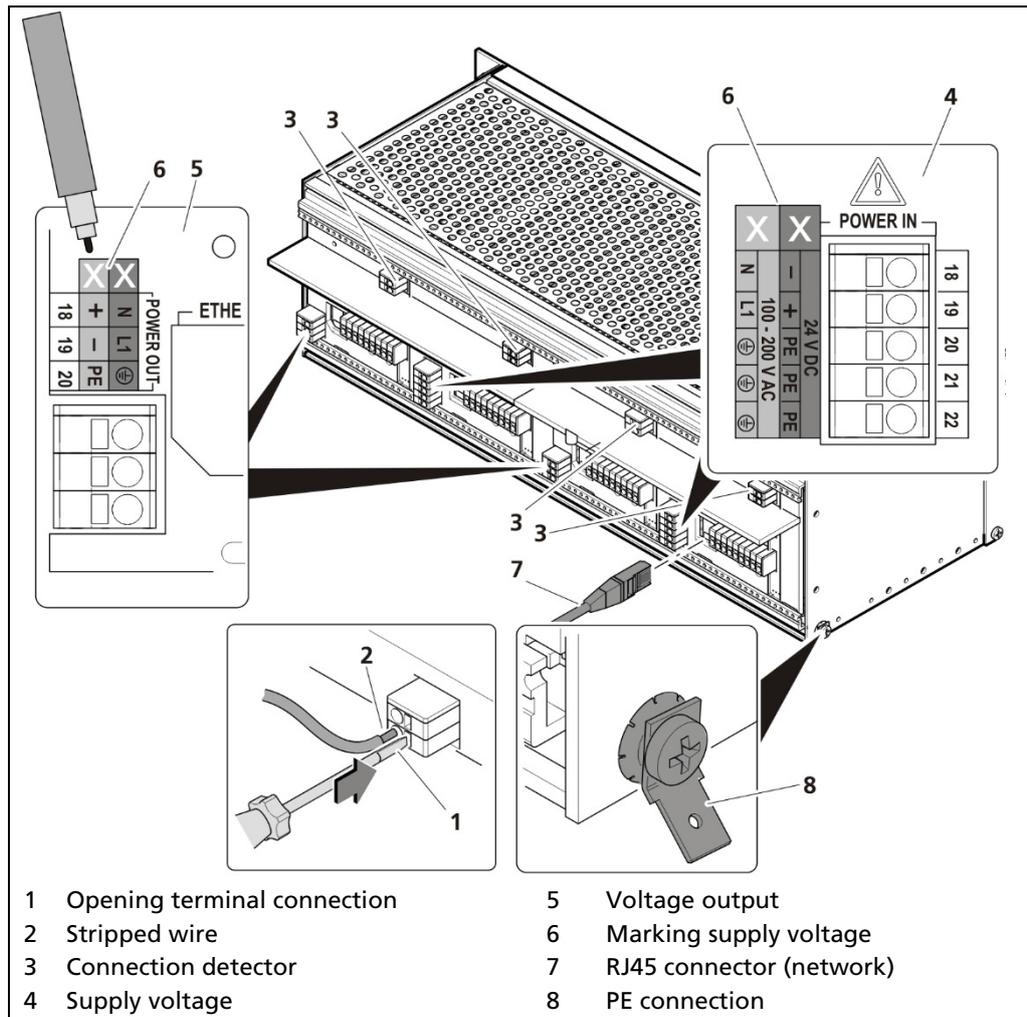

Fig. 20 Electrical connection in the 19" subrack
Prior to initial start-up, the voltage range (Fig. 20, item 8) must be marked with chemical resistance on all input and output terminals!
The terminal board master/slave is used twice (Fig. 20, item 2) for the variant to install 2 master EVUs and 6 slave modules.
The terminal board master/master (Fig. 20, item 1) is used twice for the variant to install 4 master EVUs.
Apply the voltage of the specified and marked (Fig. 20, item 6) range only!
- Label the voltage range permanently and chemically (Fig. 20, item 6).
- Open the terminal connection (Fig. 20, item 1) with an operating tool (slotted screwdriver) and insert the stripped wire (min. 8 mm) (Fig. 20, item 2). The terminal connection closes by pulling out the operating tool. The terminal connections are designed for flexible wires:
- Plug the network plug into the RJ45 socket (Fig. 20, item 7) (optional).
- Check the correct connection of the PE conductor (Fig. 20, item 8).